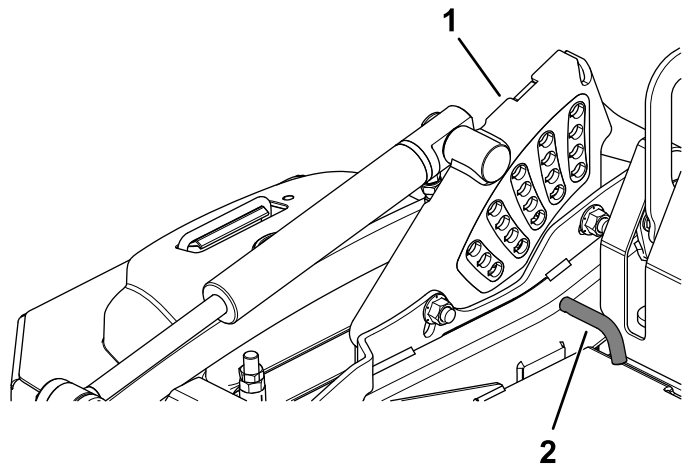

Figure 25
2. Rotate the height-of-cut pin until the roll pin in it lines up with the slots in the holes in the height-of-cut bracket and remove it (Figure 25).
3. Insert the height-of-cut pin into the hole corresponding to the desired cutting height (Figure 25).
Refer to the decal on the side of the deck-lift plate for the heights of cut (Figure 25).